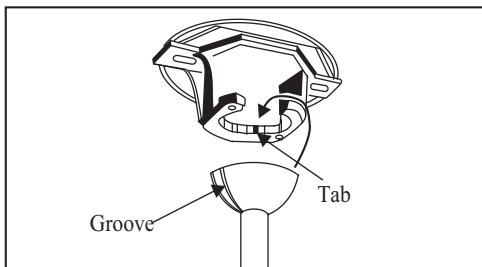

Figure 8
4. Carefully lift the fan assembly up to the ceiling mounting bracket and seat the hanger ball in the mounting bracket socket. Make sure the tab on the mounting bracket socket is properly seated in the groove in the hanger ball (Figure 8). This will help to balance the ceiling fan.